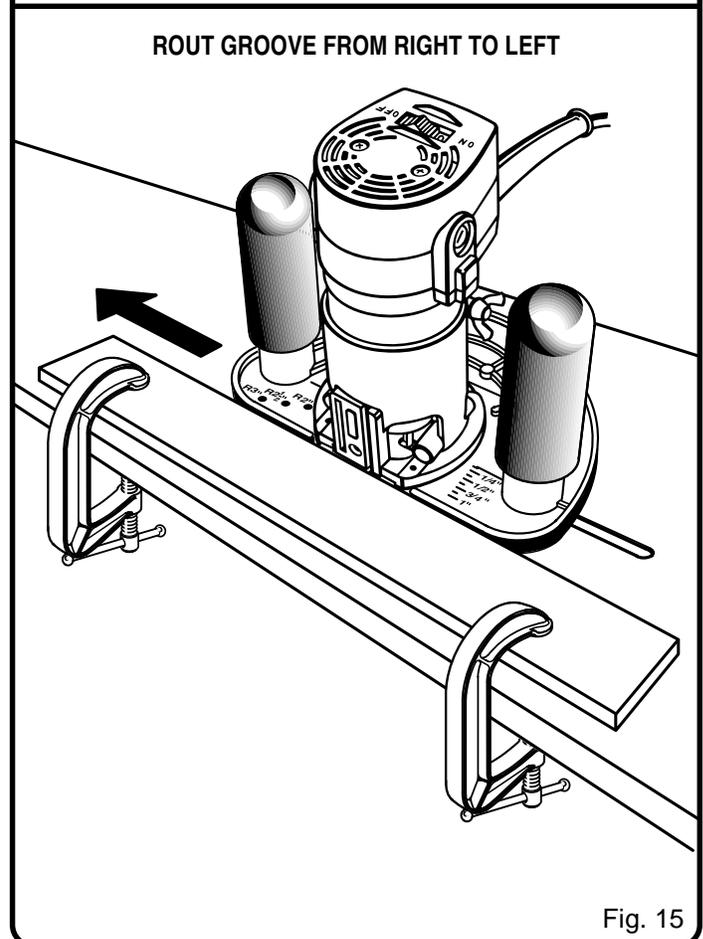

Fig. 15
- If you are using "C" clamps and a board to act as your straight edge, place cutter at desired position on the workpiece and make your cut from right to left as shown by the arrow in figure 15.